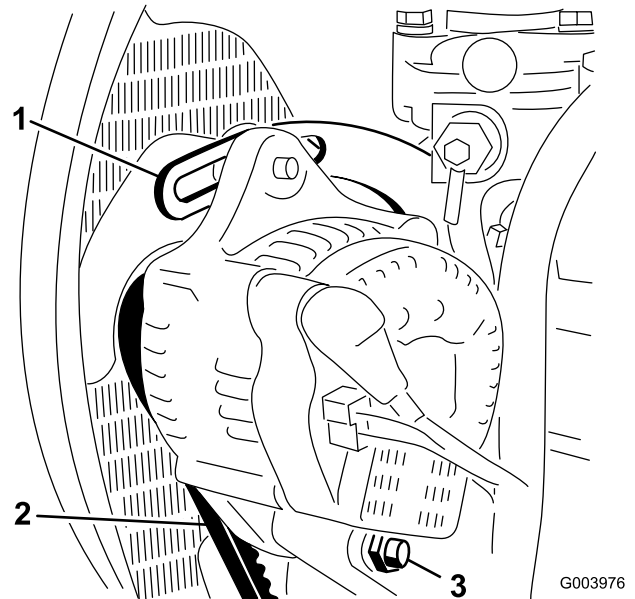

Figure 54
2. Check the tension of the alternator belt by depressing it (Figure 54) midway between the alternator and the crankshaft pulleys with 10 kg (22 lb) of force.
3. Loosen the bolt securing the brace to the engine (Figure 54), the bolt securing the alternator to the brace and the pivot bolt.